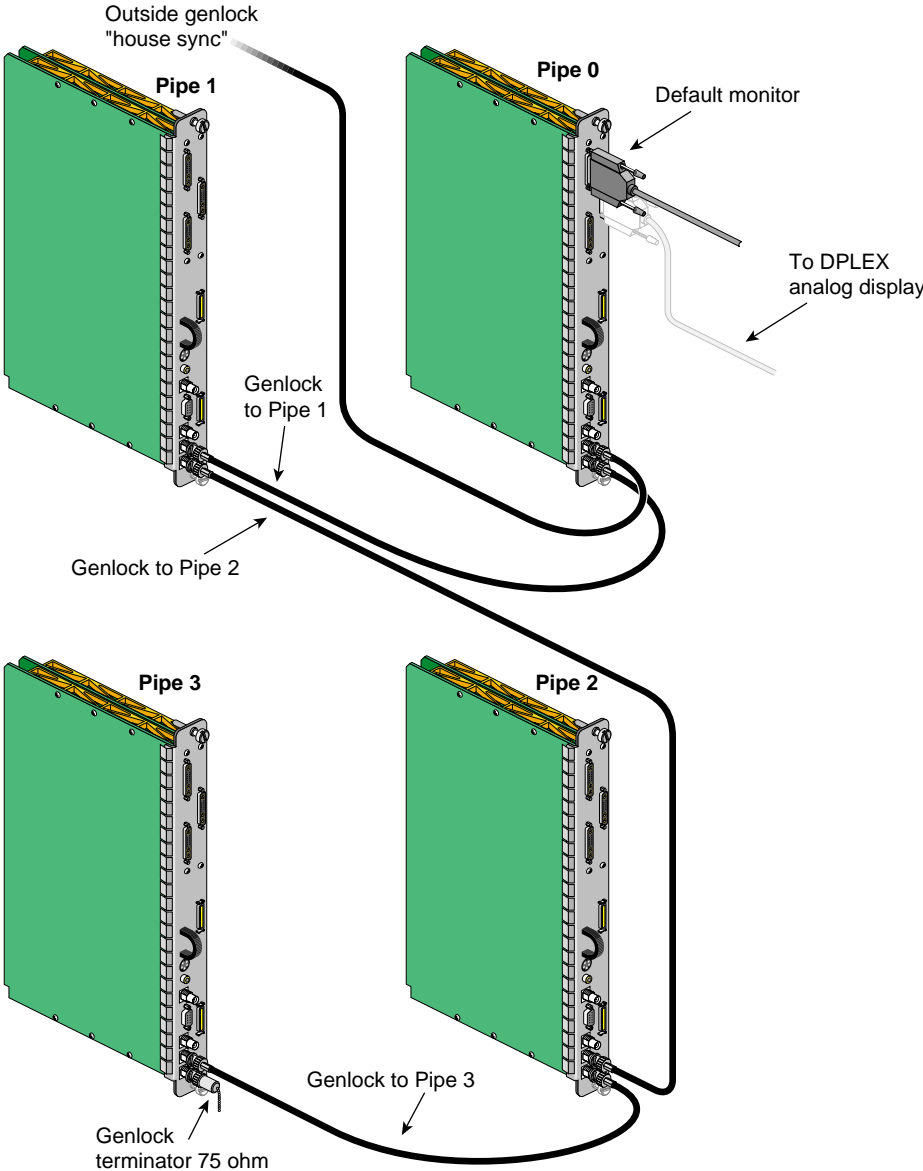

Figure 2-5 Four-Pipe DPLEX Genlock Cabling Example (External Genlock)
- For an external genlock signal, connect the external genlock line (house sync) to the genlock in connector on the first DG5/DPLEX board set in the cascade. This is shown as pipe 0 in Figure 2-5.
2. Connect a 75 ohm cable from the genlock loop through connector on pipe 0 to the genlock in connector on the second DG/DPLEX assembly (shown as pipe 1 in Figure 2-5). Repeat this procedure for the third and fourth pipes.
3. Terminate the final pipe with a 75 ohm terminator. See Figure 2-5 for an example.